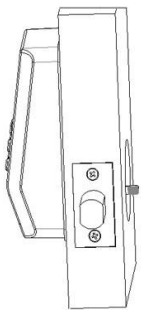

Figure 9
1. Install the **Front panel Assembly** of the lock onto the door (Please see VI. Install the Front panel Assembly). As shown in **Figure 9**: